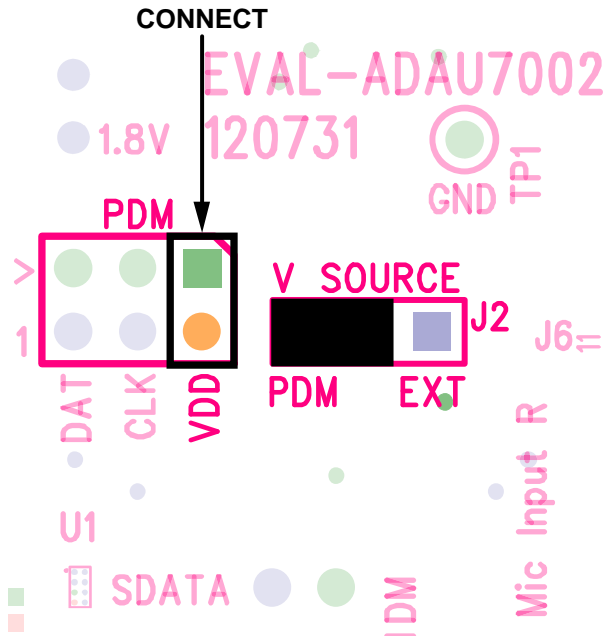

Figure 9. PDM VDD Power
- When Header J2 is in the PDM position, power can be supplied from the VDD output of your PDM source to the VDD pins on Header J1 (see Figure 9).